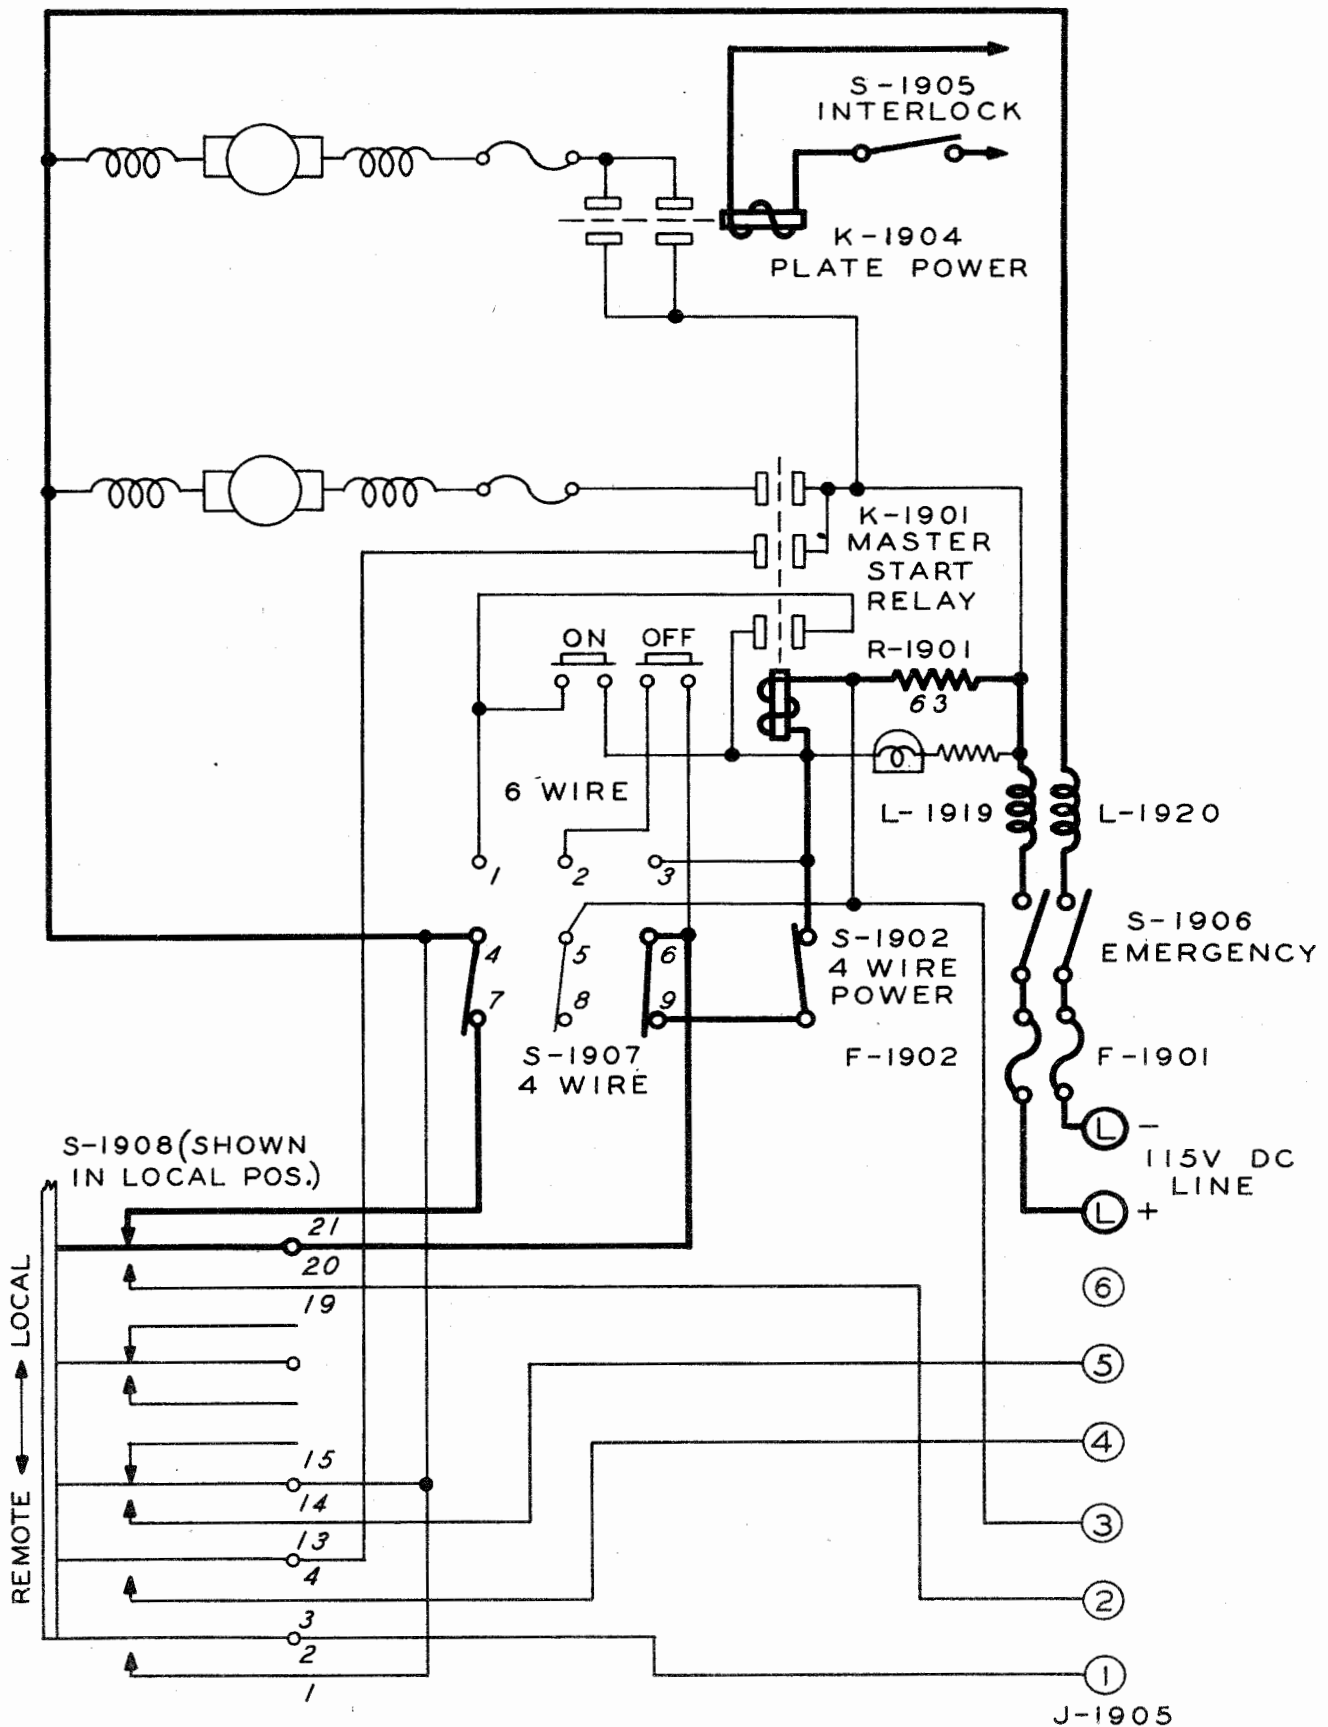

Figure 4-3 Local Power Control - 4 Wire Navy Circuits
g. LOCAL POWER CONTROL - 4 WIRE NAVY CIRCUITS. (See figure 4-3) - In 4 WIRE local control operation, the master start relay is controlled by the 4 WIRE POWER switch S-1902. The LOCAL-REMOTE switch S-1908 must be in the LOCAL position, the 4 WIRE-6 WIRE selector switch S-1907 must be in the 4 WIRE position and the 4 WIRE POWER switch S-1902 in the ON position. The coil of the master start relay K-1901 is energized by the circuit from the positive "L" terminal on terminal board J-1905 through LINE fuse F-1902, EMERGENCY switch S-1906, line filter choke L-1919, limiting resistor R-1901, the coil of master start relay K-1901, the contacts of 4 WIRE POWER switch S-1902, contacts 6 and 9 on 4 WIRE-6 WIRE selector switch S-1907, contacts 20 and 21 on LOCAL-REMOTE switch S-1908, contacts 7 and 4 on 4 WIRE-6 WIRE selector switch S-1907, line filter choke L-1920, EMERGENCY switch S-1906, LINE fuse F-1901 to the negative "L" terminal on terminal board J-1905. Since 4 WIRE POWER switch S-1902 is a positive acting switch, no hold-in circuit is necessary, therefore, the master start relay may be returned to the unoperated position merely by opening the 4 WIRE POWER switch. As indicated in figure 4-3, operating 4 WIRE POWER switch S-1902 to the ON position actuates master start relay K-1901 which closes and allows the LV dynamotor to operate. A portion of the 28 v DC output of the LV dynamotor is utilized to operate plate power relay K-1904 which applies primary power to the HV dynamotor.